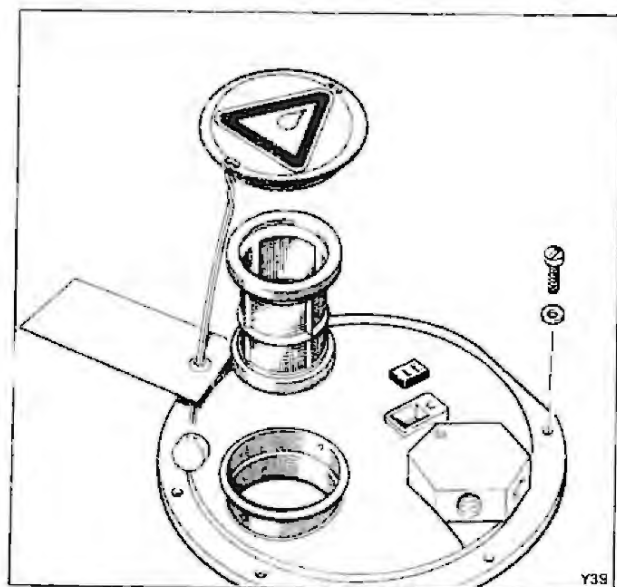

Fig. 4 Early type filler cap, warning label and filter
- 3 Remove and discard the green filler caps, plastic warning labels, and fluid filters (see fig. 4).